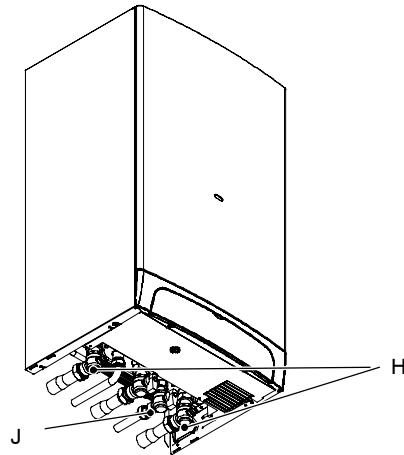

Fig. 7 - bottom view of the boiler
- Close the c.h. circuit flow and return cocks *H*. (Fig. 7).
- Close the d.c.w. inlet cock *J* (Fig. 7);